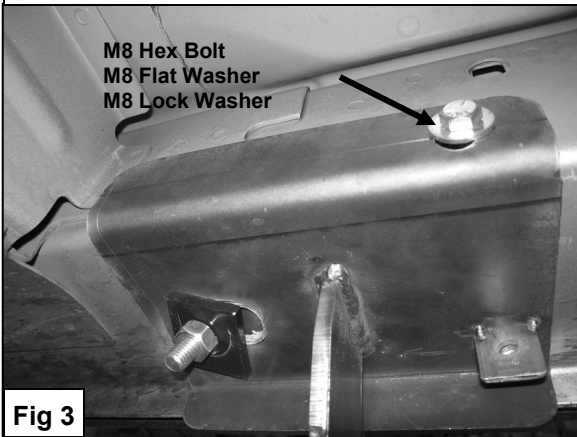

Fig 3
6. Secure the side of the Mounting Bracket to the side of the floor panel rail using the included (1) M8 Hex Head Bolt, (1) M8 Lock Washer, and (1) M8 Flat Washer (Figure 3 & 4). Hand tighten at this time.